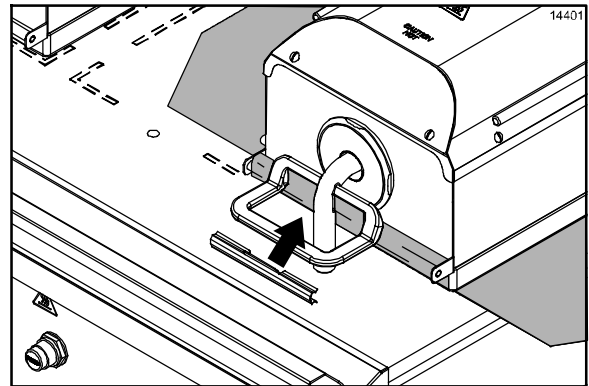

Figure 9
3. Center the release sheet on the bar. Pull it tightly over the release material bar located in the front of the shroud. Secure the sheet with a locking clip. (See Figure 9.)